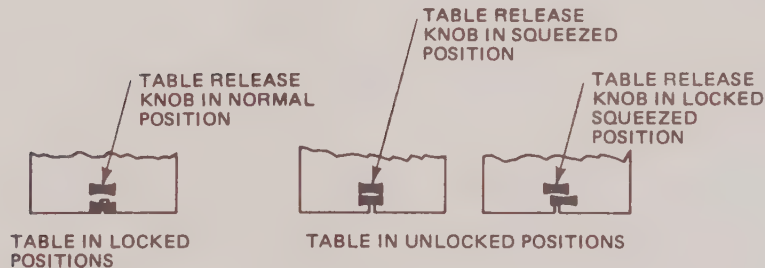

Figure 3 Table Release Knob Positions
- b) Squeeze the table release knob and move the table all the way out. (See figure 1.) For your convenience table release knob may be locked in squeeze position. (See figure 3.)